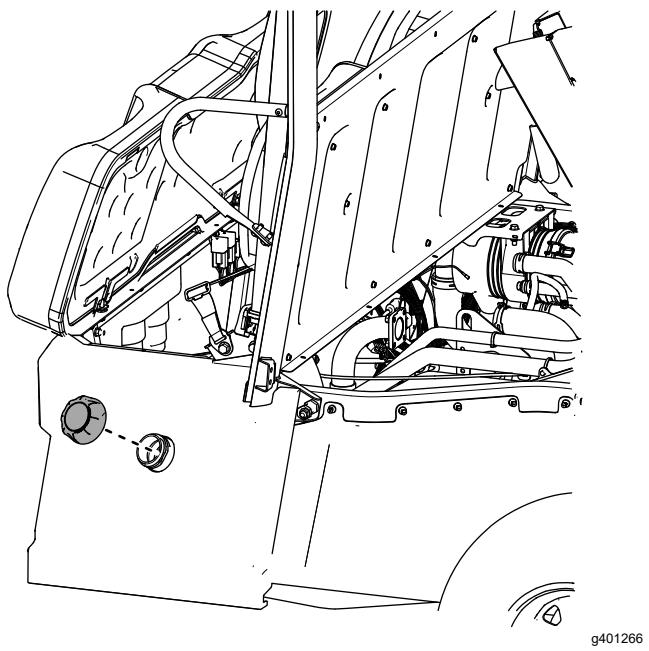

Figure 73
33. Install the fuel-tank cap to the left, rear seat-base panel (Figure 73).